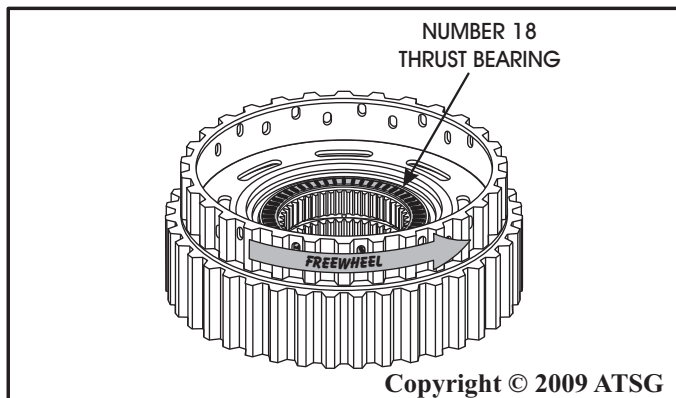

Figure 65
67. Remove number 18 thrust bearing, as shown in Figure 65.